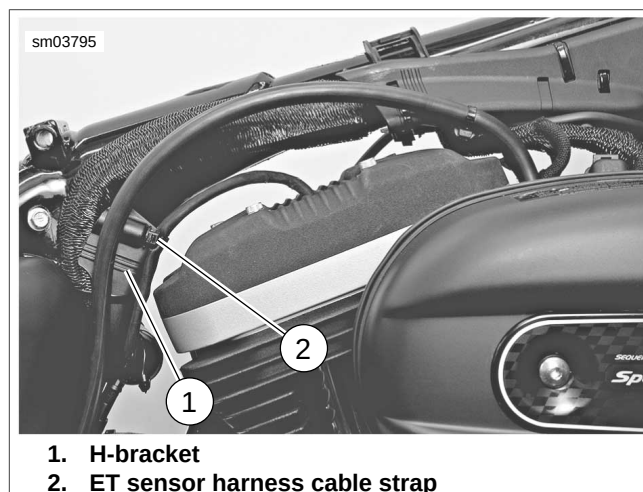

Figure 6-107. Remove/Install Cable Straps
7. See Figure 6-107. Cut cable strap (2) securing ET sensor harness to H-bracket (1).
- g. Engine temperature (ET) sensor [90B],
19. See Figure 6-107. Secure ET sensor harness to H-bracket (1) with a barbed cable strap (2). Make sure there is a loop in the harness between the ET sensor and the H-bracket to avoid damaging harness during vehicle operation.